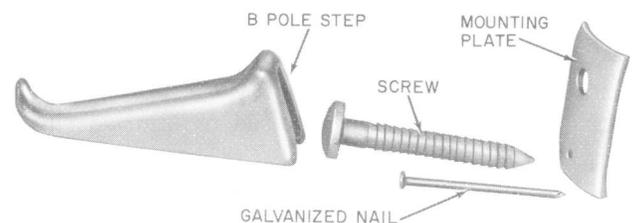

Fig. 2—B Pole Step
2.02 Figure 2 illustrates a B pole step and mounting hardware.